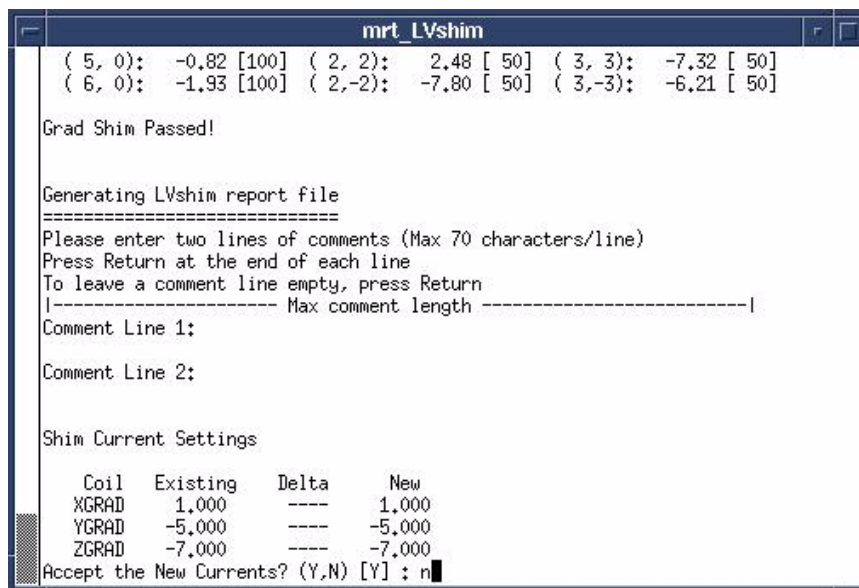

Figure 12
10. Enter any applicable comments. Press the enter key **Figure 12**
11. Reject the new current values by entering “n” and pressing the enter key **Figure 12**